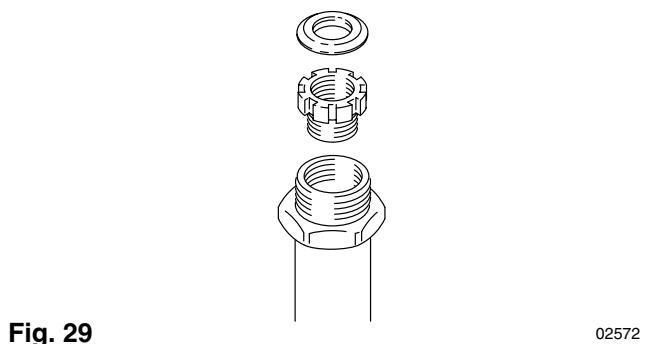

Fig. 29
7. Loosely install the packing nut and plug. See Fig. 29.